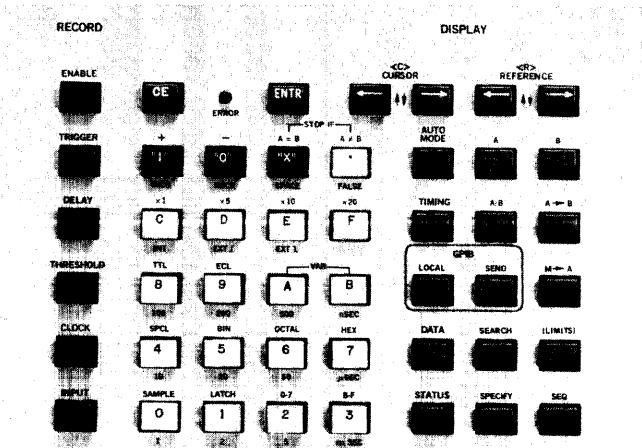

Figure 5.1 Status Display and Keyboard
6. Check the screen in Figure 5.1 for the proper power-up format.
Power up the K100-D. Status mode is shown. Verify the full display on the screen. Obtain the desirable display as follows (see Figures 5.1, 5.2 and 5.3):